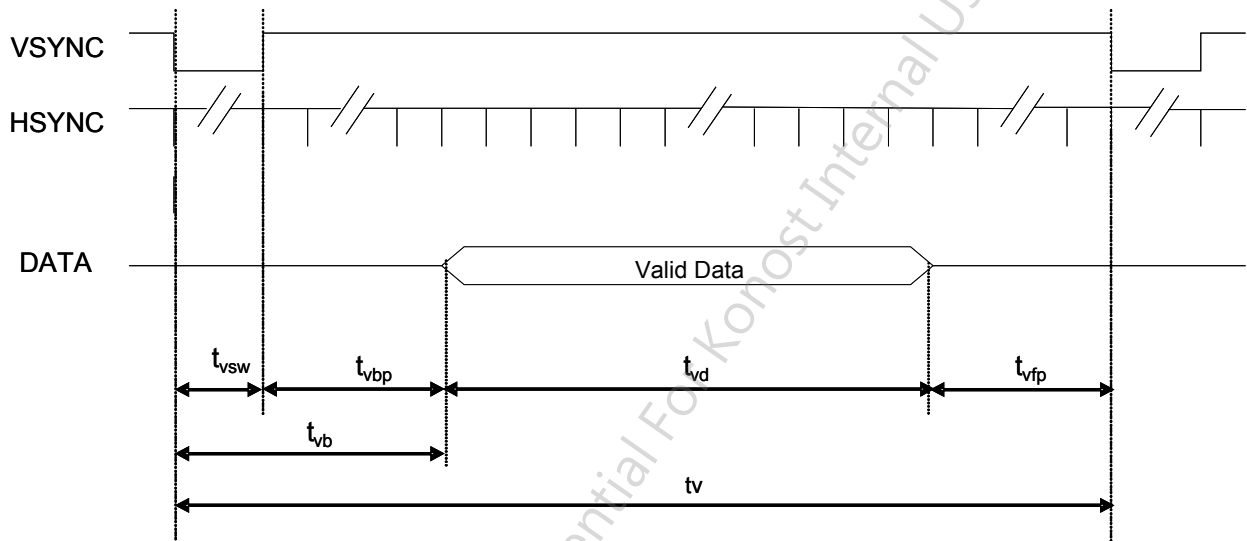
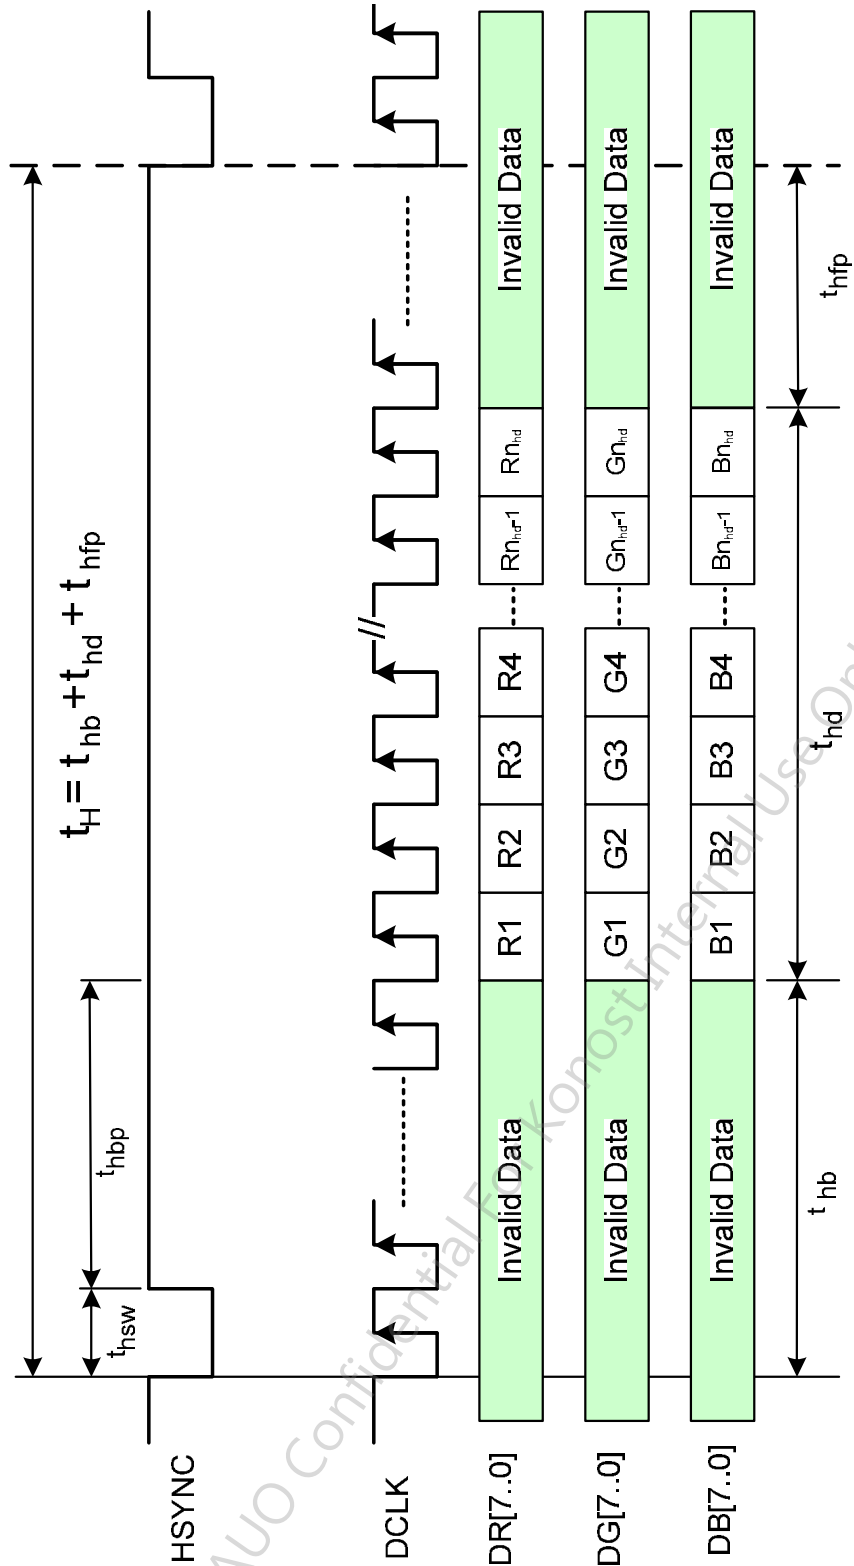

Fig.1 Parallel RGB Input Vertical Timing Chart
Fig.2 Parallel RGB Input Horizontal Timing Chart
5.1 Parallel RGB timing (Refer to Fig.1 and Fig.2)